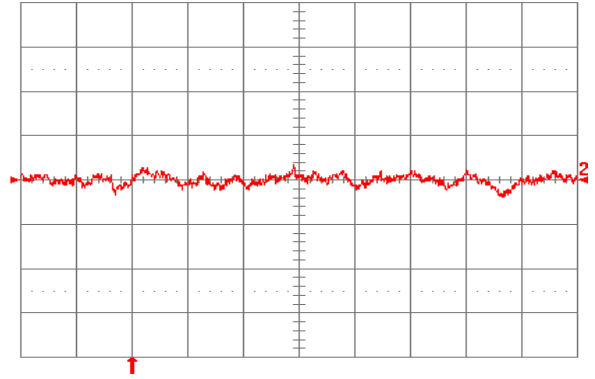

**Fig. 5.0V.14:** Test Setup for measuring input reflected ripple currents,  $i_c$  and  $i_s$ .
**Fig. 5.0V.1:** Available load current vs. ambient air temperature and airflow rates for SQ48T10050 converter with D height pins mounted vertically with  $V_{in} = 48\text{ V}$ , air flowing from pin 3 to pin 1, and maximum FET temperature  $\leq 120^\circ\text{C}$ .
**Fig. 5.0V.2:** Available load current vs. ambient air temperature and airflow rates for SQ48T10050 converter with D height pins mounted horizontally with  $V_{in} = 48\text{ V}$ , air flowing from pin 3 to pin 1, and maximum FET temperature  $\leq 120^\circ\text{C}$ .
**Fig. 5.0V.3:** Available load current vs. ambient air temperature and airflow rates for SQ48S10050 converter mounted vertically with  $V_{in} = 48V$ , air flowing from pin 3 to pin 1, and maximum FET temperature  $\leq 120^{\circ}C$ .
**Fig. 5.0V.4:** Available load current vs. ambient air temperature and airflow rates for SQ48S10050 converter mounted horizontally with  $V_{in} = 48V$ , air flowing from pin 3 to pin 1, and maximum FET temperature  $\leq 120^{\circ}C$ .
**Fig. 5.0V.5:** Efficiency vs. load current and input voltage for SQ48T/S10050 converter mounted vertically with air flowing from pin 3 to pin 1 at a rate of 300 LFM (1.5 m/s) and  $T_a = 25^{\circ}C$ .
**Fig. 5.0V.6:** Efficiency vs. load current and ambient temperature for SQ48T/S10050 converter mounted vertically with  $V_{in} = 48V$  and air flowing from pin 3 to pin 1 at a rate of 200 LFM (1.0m/s).
**Fig. 5.0V.7:** Power dissipation vs. load current and input voltage for SQ48T/S10050 converter mounted vertically with air flowing from pin 3 to pin 1 at a rate of 300 LFM (1.5m/s) and  $T_a = 25^\circ\text{C}$ .
**Fig. 5.0V.8:** Power dissipation vs. load current and ambient temperature for SQ48T/S10050 converter mounted vertically with  $V_{in} = 48\text{V}$  and air flowing from pin 3 to pin 1 at a rate of 200 LFM (1.0m/s).
**Fig. 5.0V.9:** Turn-on transient at full rated load current (resistive) with no output capacitor at  $V_{in} = 48\text{V}$ , triggered via ON/OFF pin. Top trace: ON/OFF signal (5 V/div.). Bottom trace: output voltage (2 V/div.). Time scale: 2ms/div.
**Fig. 5.0V.10:** Turn-on transient at full rated load current (resistive) plus 10,000  $\mu\text{F}$  at  $V_{in} = 48\text{V}$ , triggered via ON/OFF pin. Top trace: ON/OFF signal (5 V/div.). Bottom trace: output voltage (2 V/div.). Time scale: 2ms/div.
**Fig. 5.0V.11:** Output voltage response to load current step-change (2.5A – 5A – 2.5A) at  $V_{in} = 48V$ . Top trace: output voltage (200 mV/div.). Bottom trace: load current (2 A/div.). Current slew rate: 0.1A/ $\mu$ s.  $C_o = 1\mu F$  ceramic. Time scale: 0.2ms/div.
**Fig. 5.0V.12:** Output voltage response to load current step-change (2.5A – 5A – 2.5A) at  $V_{in} = 48V$ . Top trace: output voltage (200 mV/div.). Bottom trace: load current (2A/div.). Current slew rate: 5A/ $\mu$ s.  $C_o = 450\mu F$  tantalum + 1 $\mu F$  ceramic. Time scale: 0.2 ms/div.
**Fig. 5.0V.13:** Output voltage ripple (20 mV/div.) at full rated load current into a resistive load with  $C_o = 10\mu F$  tantalum + 1 $\mu F$  ceramic and  $V_{in} = 48V$ . Time scale: 1 $\mu$ s/div.
**Fig. 5.0V.15:** Input reflected ripple current,  $i_c$  (100 mA/div.), measured at input terminals at full rated load current and  $V_{in} = 48V$ . Refer to Fig. 5.0V.14 for test setup. Time scale: 1  $\mu s$ /div.
**Fig. 5.0V.16:** Input reflected ripple current,  $i_s$  (10 mA/div.), measured through 10  $\mu H$  at the source at full rated load current and  $V_{in} = 48V$ . Refer to Fig. 5.0V.14 for test setup. Time scale: 1  $\mu s$ /div.
**Fig. 5.0V.17:** Output voltage vs. load current showing current limit point and converter shutdown point. Input voltage has almost no effect on current limit characteristic.
**Fig. 5.0V.18:** Load current (top trace, 10 A/div., 20 ms/div.) into a 10  $m\Omega$  short circuit during restart, at  $V_{in} = 48V$ . Bottom trace (10 A/div., 1 ms/div.) is an expansion of the on-time portion of the top trace.